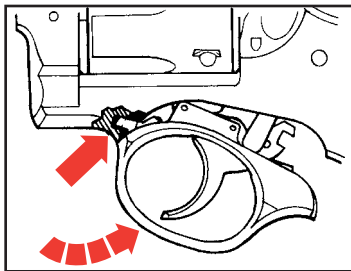

Figure 15
2. Hook the front of the trigger guard into the recess in the frame (See Figure 15). Align the pawl in its recess in the frame and be sure the transfer bar is in its correct position in relation to the firing pin (See Figure 16). Using the mainspring lever, withdraw the trigger guard latch and swing the trigger guard into position in the frame. Allow the trigger guard latch to re-engage the frame. If solid resistance is felt when swinging the trigger guard into the frame, or if the trigger guard will not lock into position, re-check the position of the pawl and transfer-bar (See Figure 16).